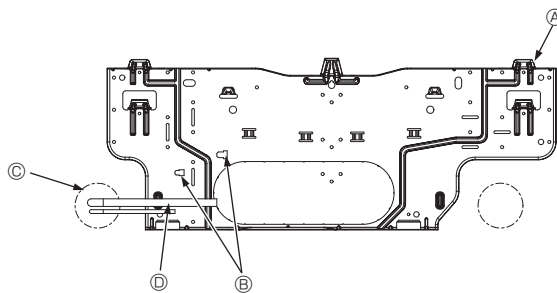

Fig. 3-6
3.3. When embedding pipes into the wall (Fig. 3-6)
- Ⓐ Mount board ①